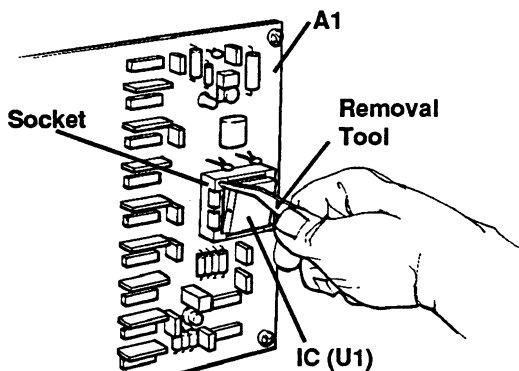

Figure 2 Old Firmware IC Removal
- b. Remove old firmware IC (U1) by referring to Fig. 2. Use removal tool 027338 from kit.